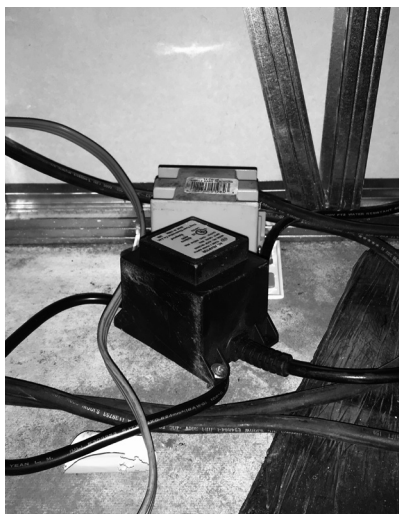

FIG. 1
- In a built-in application secure the transformer box near the GFCI 120V outlet in a dry location and away from the Power Burner firebox and excessive heat area. (Fig. 1)